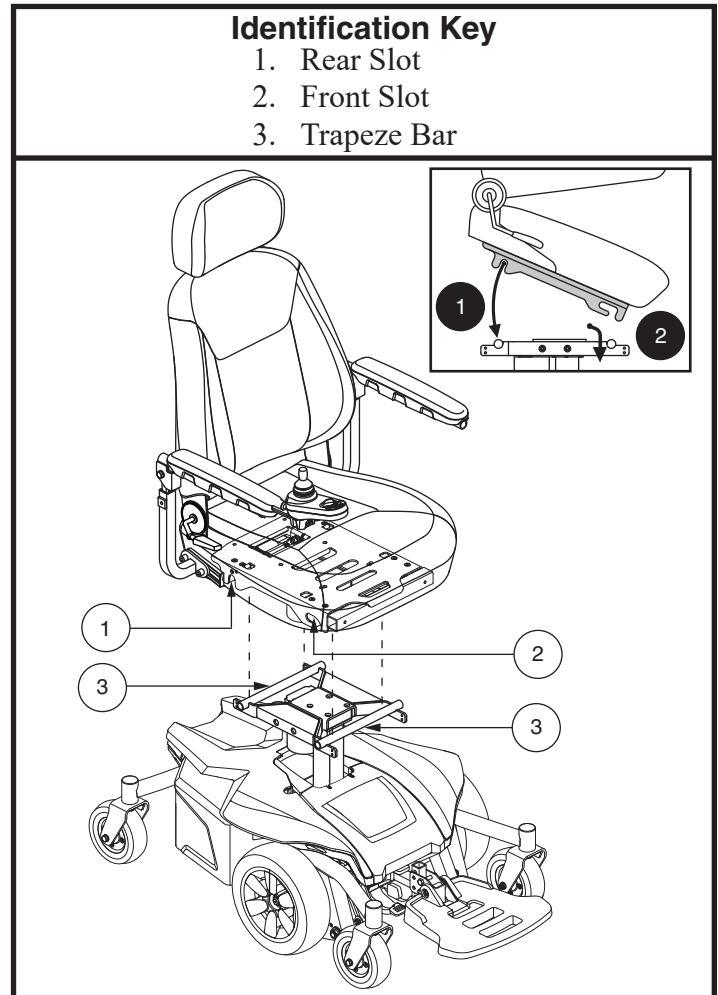
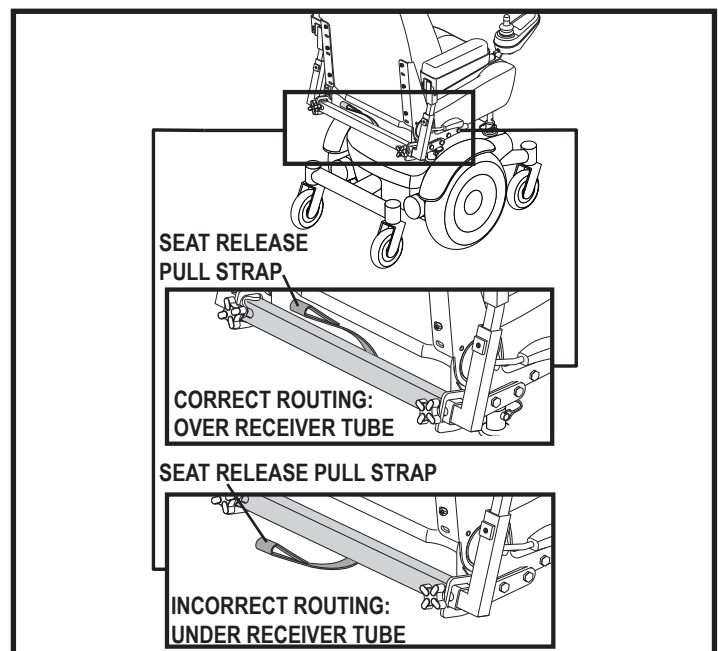

Figure 8. Seat Assembly (Power Seat Only)
Figure 9. Seat Release Pull Strap Routing
It may be necessary to install the seat either prior to initial operation or after transporting your power chair. The two main seat components are aluminum extrusions mounted to the seat base. These extrusions attach to a pair of trapeze bars that are mounted to the power base. See figure 8.
4. Tilt the seat forward and position the two front slots above the front trapeze bar. See figure 8.
5. Lower the seat onto the front trapeze bar and push forward until the front trapeze bar slides into the two front slots. See figure 8. Ensure the seat release pull strap is routed rearward on top of the armrest receiver tube. See figure 9.